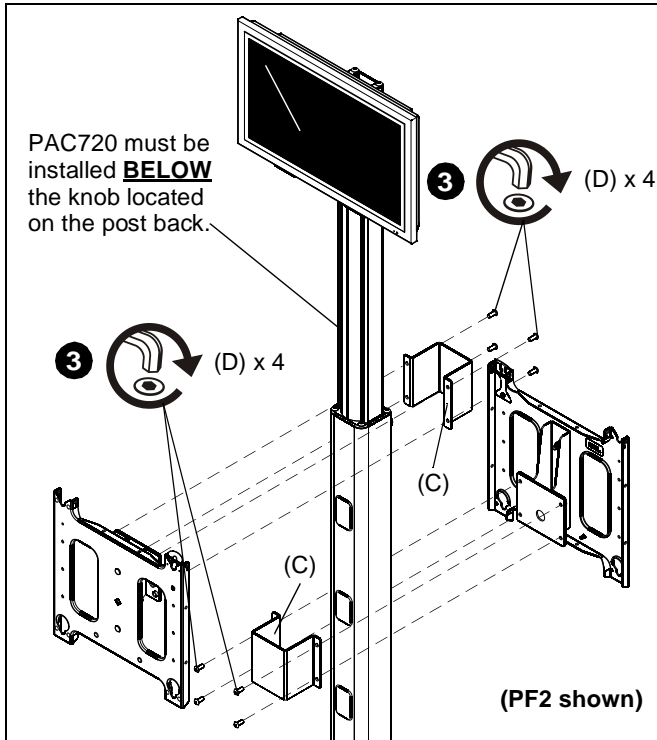

Figure 4
3. Secure faceplate assemblies with bracket to clamp brackets (C) onto cart/stand post using four 5/16-18 x 3/4" buttonhead cap screws (D) on **EACH** assembly. (See Figure 4)